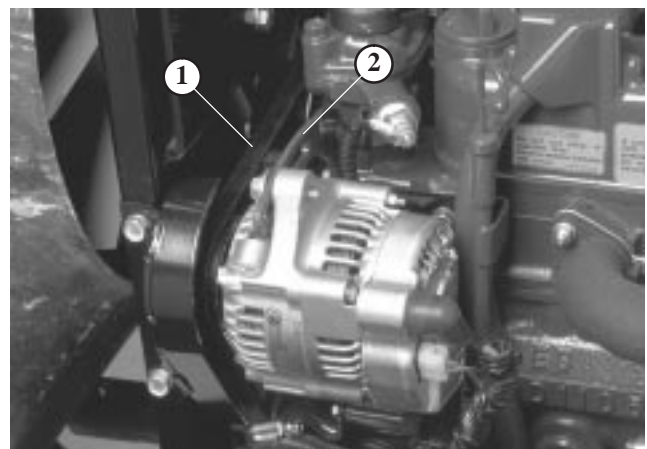

Figure 56
2. Check tension by depressing belt (Fig. 56) midway between alternator and crankshaft pulleys with 22 lb. of force. Belt should deflect 7/16 in. If deflection is incorrect, proceed to step 3. If correct, continue operation.
3. Loosen bolt securing brace to engine (Fig. 56) and bolt securing alternator to brace.